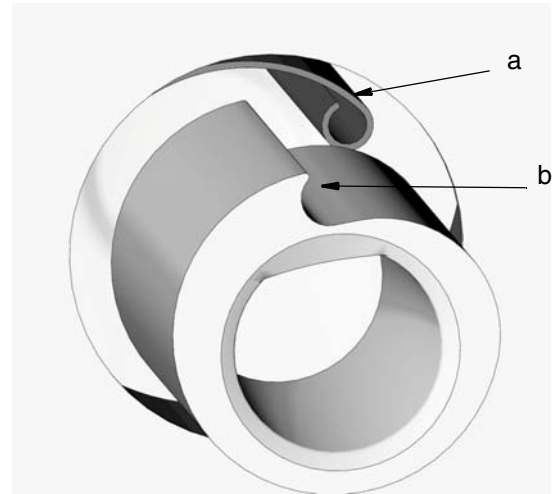

FIG. 3
the hub (b) must maintain the direction as shown in FIG. 3.
2. Assemble the spring cassette (100) with the hub (32) onto the shaft (7).
NOTE: When the spring cassette (100) is assembled into the shaft (7) the surfaces (a and b) must be aligned as shown in FIG. 3.